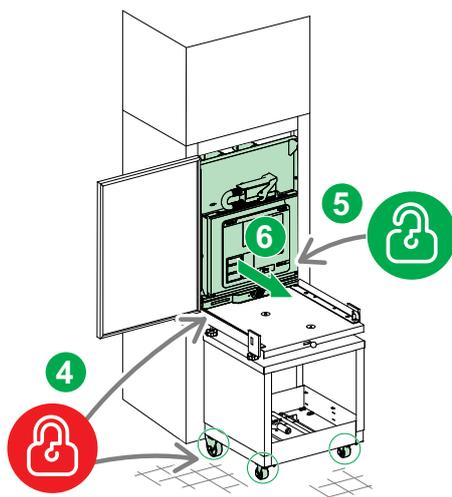

Figure 79
6. Pull the VCB by holding the locking handles, from the VCB cubicle to transport trolley. Refer to Figure 79.